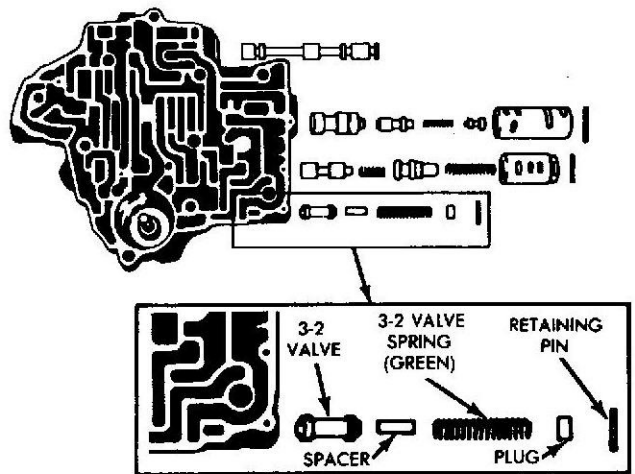

Fig. 1 Control Valve Assembly Spring
- (5) Remove valve body.
- (6) Lift gasket slightly for access to 3-2 spring retaining pin. Using needle nose pliers, remove retaining pin, bore plug, 3-2 spring and spacer (Fig. 1).
- (7) Install spacer, new 3-2 spring (green), bore plug, and retaining pin (Fig. 1).